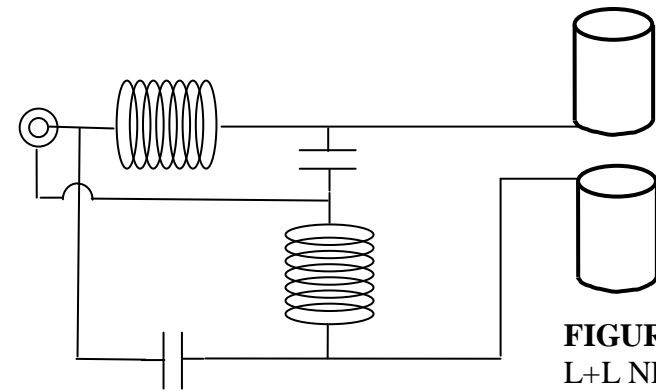

FIGURE 2
The Phase Delay Network: During the development phase of the EH Antenna three different network configurations were designed to create the proper -90 degree phase shift between the two cylinders. The networks are depicted in Figure 2 thru 4 below.
A. L+L Network: The first configuration was known as the L+L network and is shown in Figure 2. One L network provided a -45 degree phase shift and one provided + 45 degree phase shift. The L/C ratio is chosen to provide an impedance match to the coax. This arrangement works very well. However, even though the value of the two capacitors is very low, the capacitors must be able to withstand very high RF voltage.